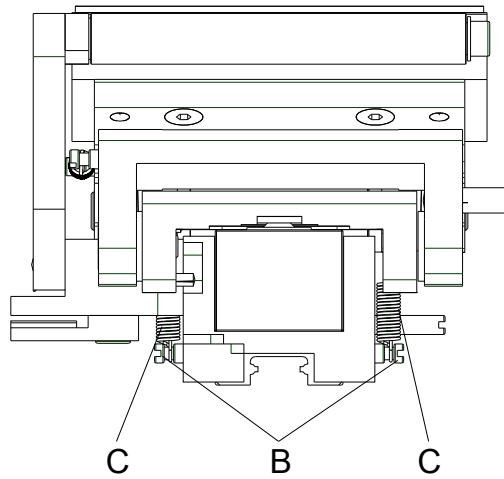

Figure 23
2. Push both tension springs (C, Figure 23) with tweezers from the pillars (B, Figure 23).